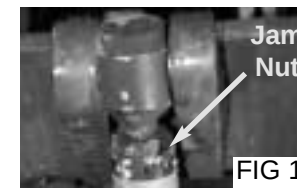

FIG 1
- 1) Ensure the scissor cylinder lock nut is tight. (FIG 1)